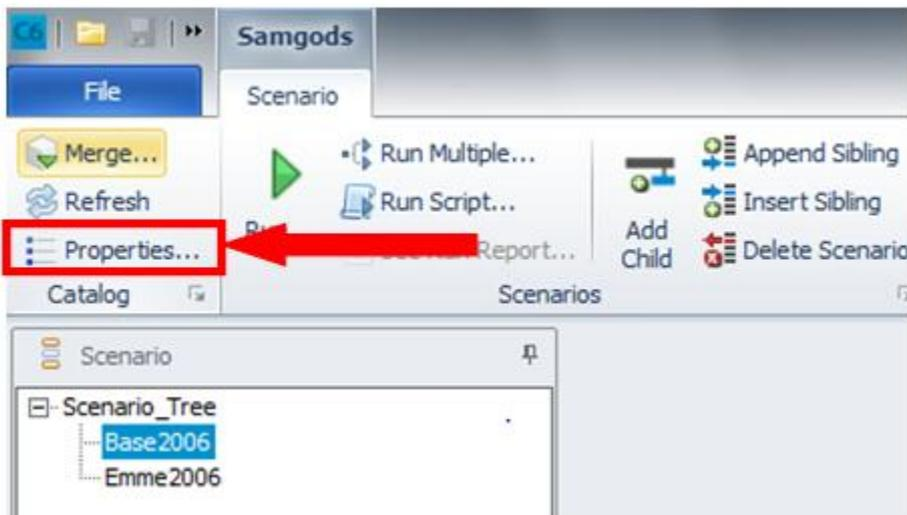

Figure 22 How to access “Catalog Properties”.
- Select “Properties” on the menu bar under section “scenario (see Figure 22)